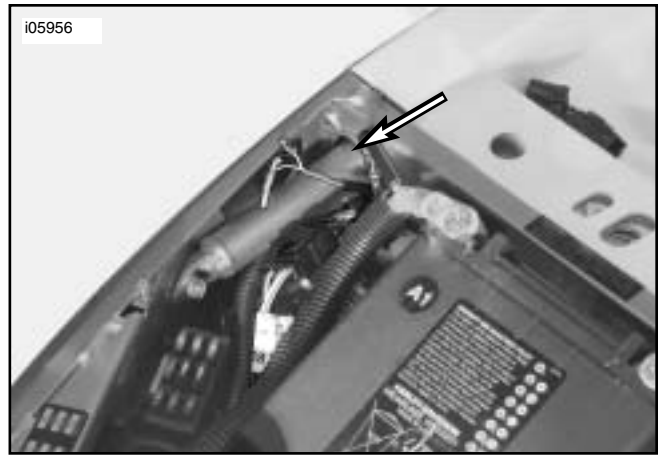

Figure 3. Pass-Through Hole Next To Battery (Blast)
11. See Figure 3. Pull the wires through the pass-through hole next to the battery underneath the seat.